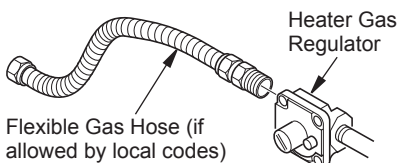
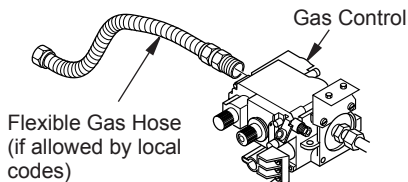

Figure 11 - Attaching Flexible Gas Hose to Heater Gas Regulator (Variable Manually-Controlled and Thermostatically-Controlled Models Only)
Figure 12 - Attaching Flexible Gas Hose to Heater Gas Regulator (Remote-Ready Models Only)
1. Apply pipe joint sealant lightly to male threads of gas fitting (not provided). For Variable Manually-Controlled and Thermostatically-Controlled Models connect approved flexible gas hose to gas regulator of heater (see Figure 11). For Remote-Ready models connect approved flexible gas hose to inlet side of gas control (see Figure 12).